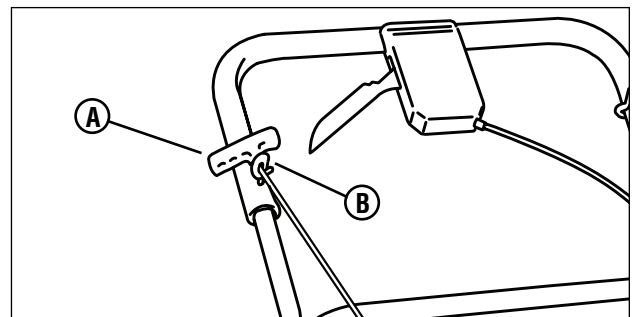

Figure 3: Attaching the recoil-start grip
5. Hold the engine stop lever against the handle. (Refer to section entitled 'Engine Stop Lever'.) Slowly pull the recoil-start grip **(A, Figure 3)**. To attach the recoil-start grip to the rope guide **(B)**, twist the rope through the rope guide mounted on the right side of the handle.